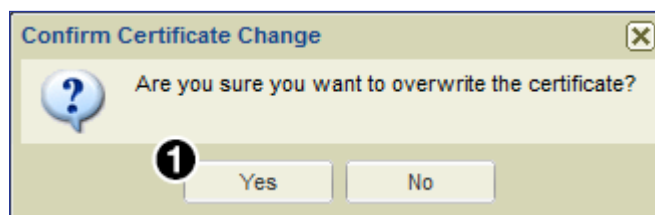

Figure 25. Confirm Certificate Change
The **Confirm Certificate Change** dialog opens (see figure 25).
7. Click **Yes** to complete loading the new certificate (see figure 25, 1).